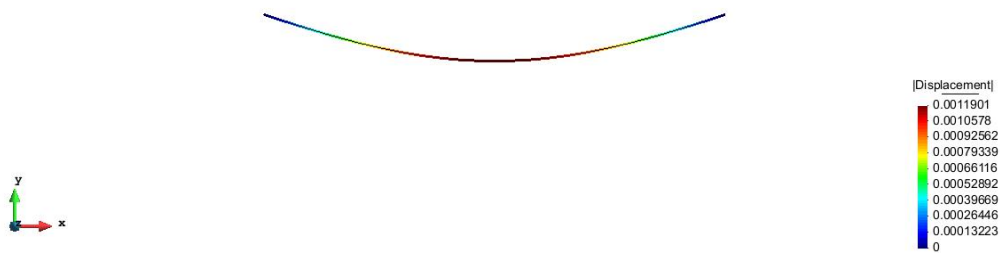
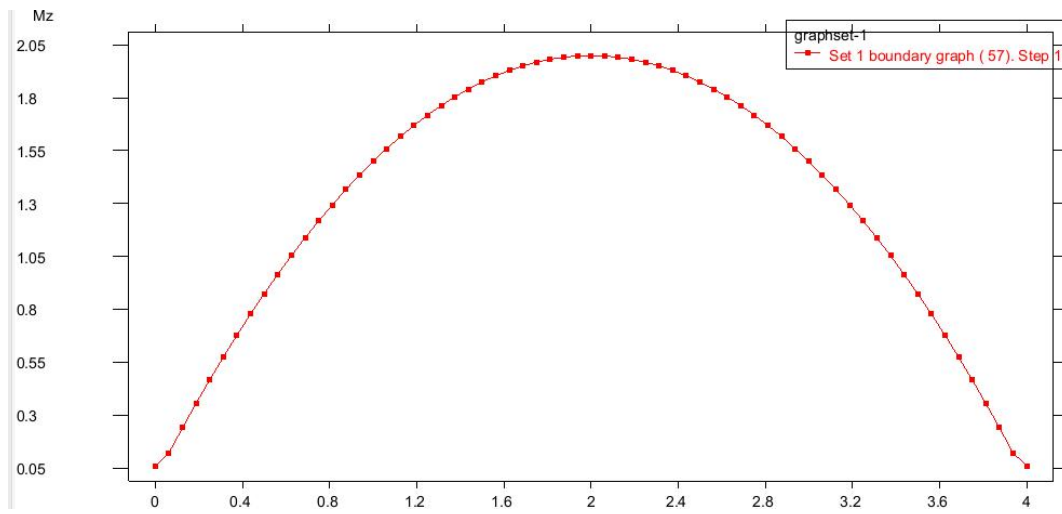

Figure 10. Displacement for a=0.05
Figure 11. Bending Moment for a=0.05
- For a=0.05 m, displacement, bending moment and shear force results are shown in Figure 10, Figure 11 and Figure 12.